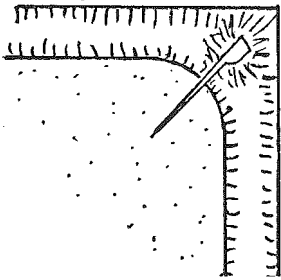

Fig. 1
- a. Internal chilling - usually done with metal pieces (of similar chemistry) which are designed for locating in problem areas of the cavity and fuse into the casting during solidification. See figure 1